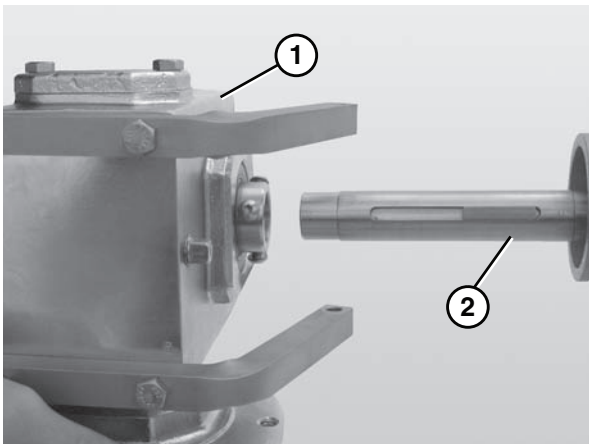

Figure 25
- Slide the gearmotor assembly (**Figure 25, item 1**) off the drive spindle (**Figure 25, item 2**).